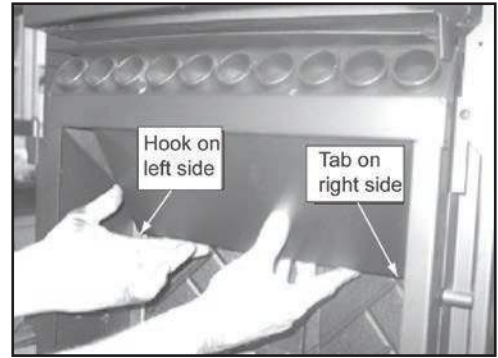

Figure 23.2
2. The top baffle has a hook on the bottom left side that rests on the top lip of the cast brick. There is a tab on the bottom right side that hooks into the side bracket. Remove the top baffle by first pulling the baffle forward until back edge drops down. Then slide baffle back until the front edge clears the shelf that it had been resting on. **Figure 23.2**